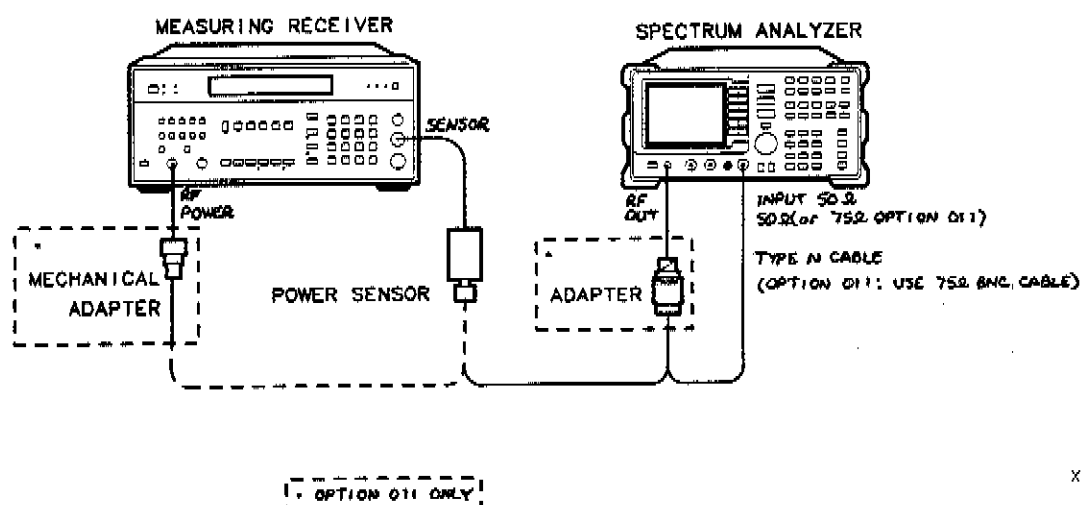

Figure 1-24. Absolute Amplitude, Vernier, and Power Sweep Accuracy Test Setup
1. Connect the Type N cable between the RF OUT 50 Ω and INPUT 50 Ω connectors on the spectrum analyzer. See Figure 1-24.
6. Disconnect the Type N cable from the RF OUT 50 Ω and connect the power sensor to the RF OUT 50 Ω as shown in Figure 1-24.